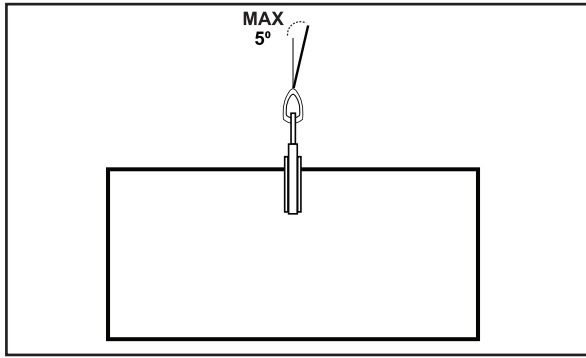

FIGURE 3
- Never exceed more than 5° of side loading. See Figure 3.